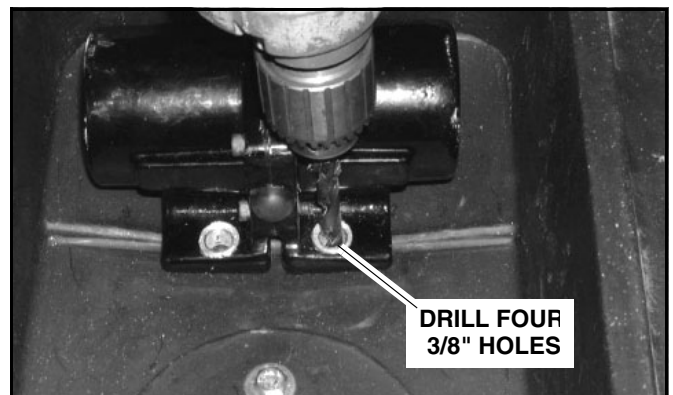

Figure 7
7. Drill four holes, through motor base, into motor plate (See Figure 7).